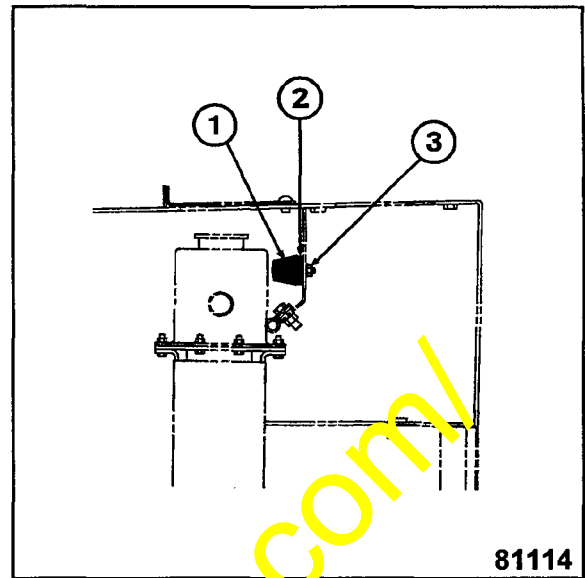

Figure 3
6. Install 1431476H1 conical bumper (1, Figure 3) three 25552R1 flat washers (2), 120214 lock washer, and 25520R1 hex nut (3) in each hold. Tighten to 16 lbf ft.